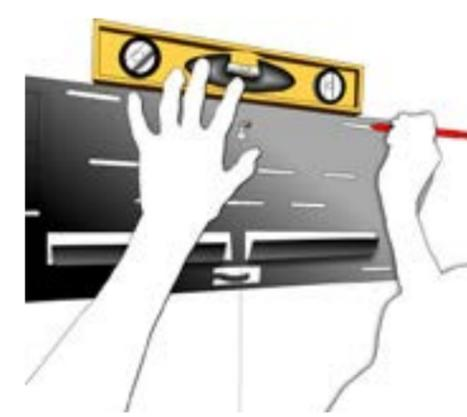

**FIG. 2.1**
3. Identify the Bracket Template (A) from the fountain components. The top of the template bracket (A) for both fountains will rest exactly 4" down from the overall height of each unit. Using the center mark of the fountain's width place the Bracket Template's (A) upper keyhole so you can see the center line through the hole. The keyhole should be in this position (Fig 2.1). Mark the top keyhole.
4. Using a Phillips screw driver and a small screw from your Hardware Bag (J) set the screw in the wall so that 1/4" is left protruding. Hang the Bracket Template (A) from this screw (Fig 2.2) making certain the keyhole is in the position shown in Fig 2.1.
5. Using the level make certain the Bracket Template (A) is vertically level and mark the placement of the lower keyhole. Remove the Bracket Template (A).